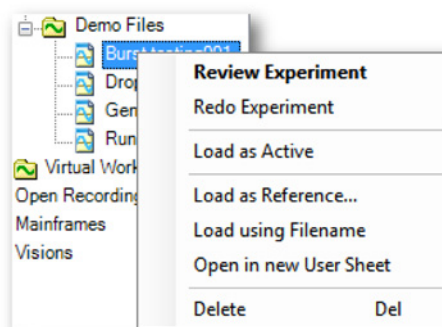

Figure 4.19: Recordings Navigator with shortcut menu
- Select a recording and use a right mouse click to access the context menu shown in Figure 4.19.